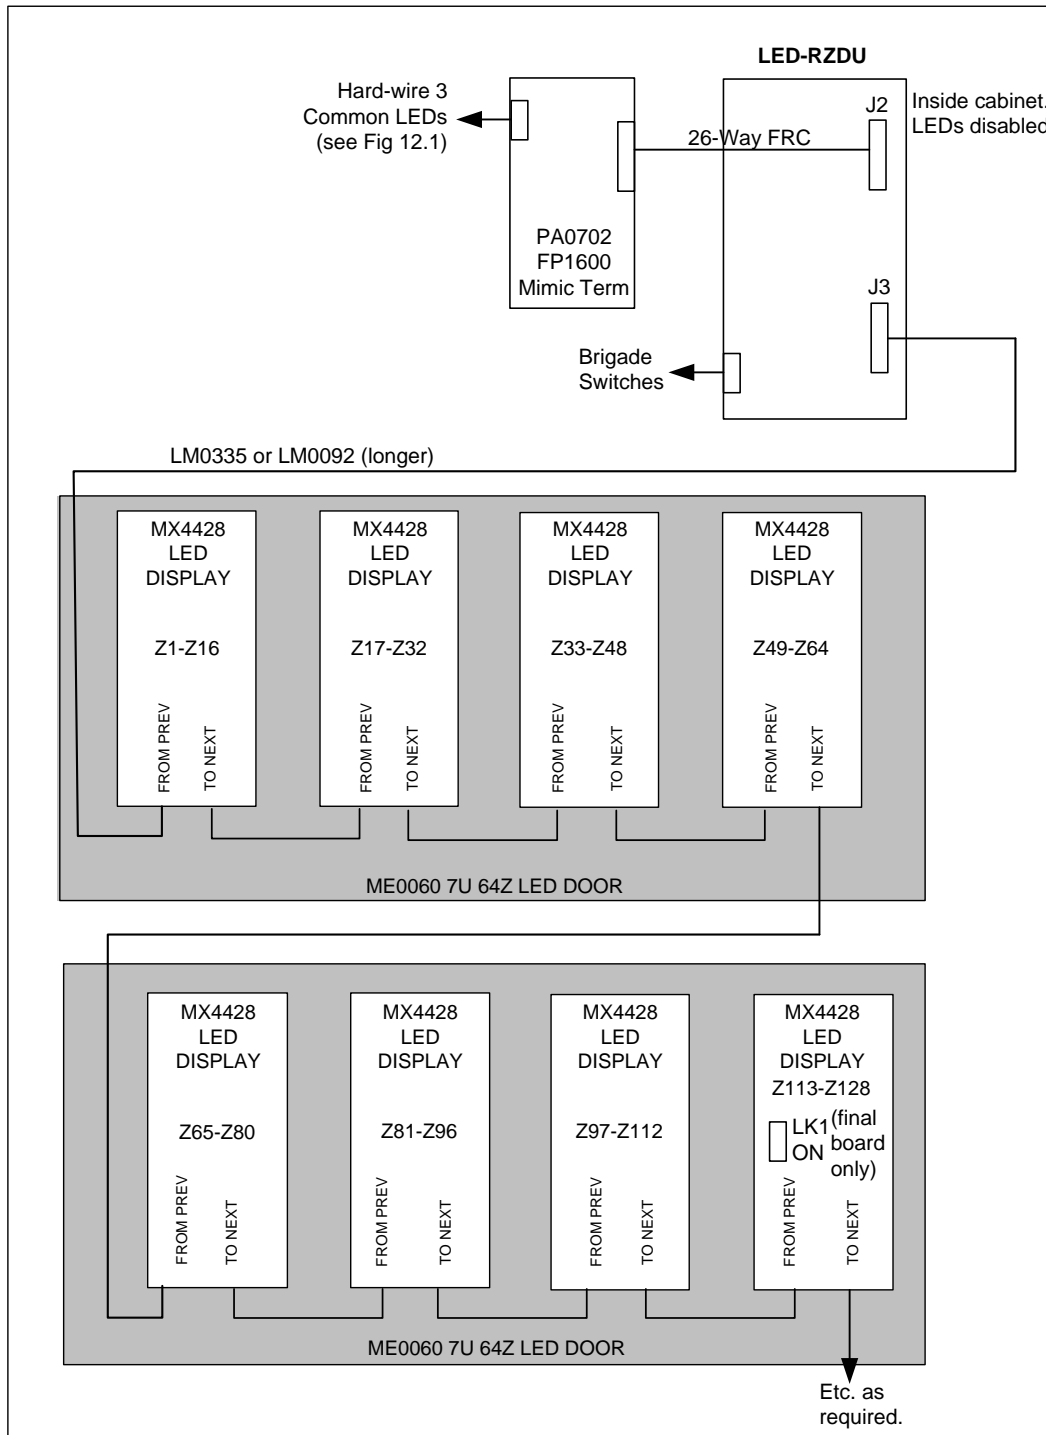

Fig 11.2 – Front Service Rackmount Display with MX4428 LED Display Boards
- 7U rackmount 64-zone display doors (ME0060) with *MX4428* format 16-zone LED display boards (FP0475) to display zone Alarm (and optionally) Fault, and Isolate on 3 LEDs (Figure 11.2).